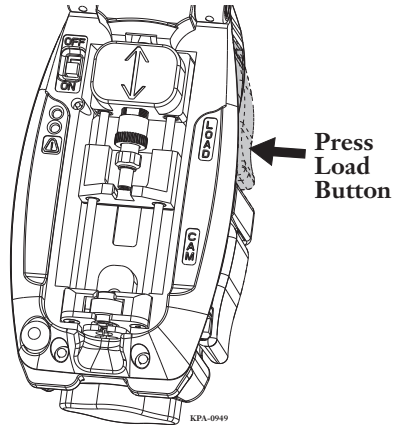

Figure 16 — Squeeze LOAD Button
- Step 1:** Squeeze the LOAD Button (Figure 16) to move the Connector Cradle away from the Wrench.